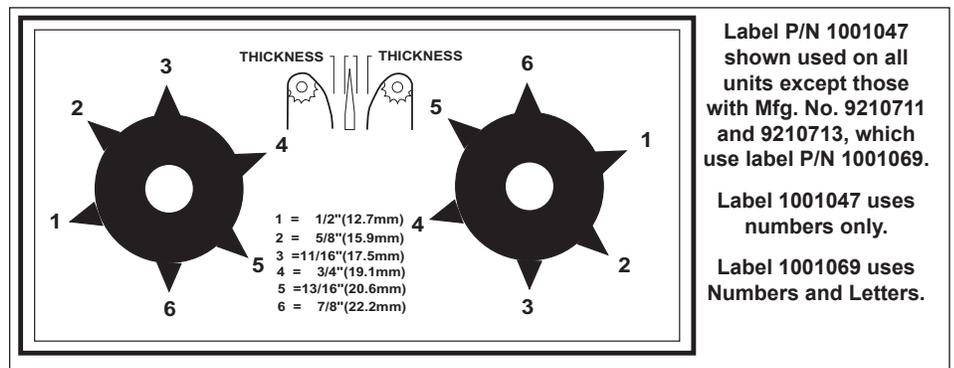

Figure 4. Bun Thickness Compression Knobs
1. Set the Bun Thickness Compression Knobs (Figure 4) to the desired settings.
NOTE: The Bun Thickness Compression Knobs (Figure 4) must be set to “6 & 6” or “6 & F” prior to measuring or removing or reinstalling the Conveyor Belt Chains.